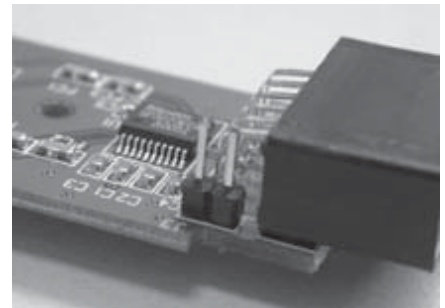

Figure A-2. Connector J3 Location.
2. Locate J3 on the interface board. See Figure A-2.